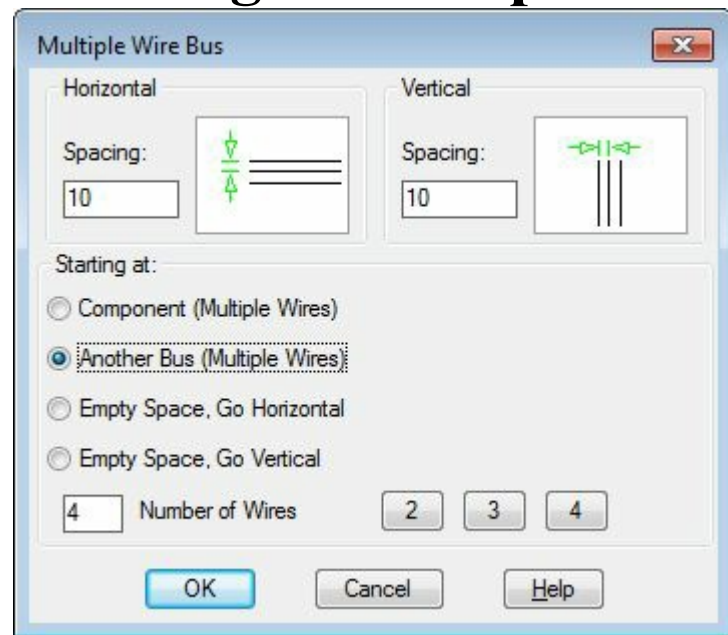

Figure-8. Multiple Wire Bus dialog box
- Click on the **Multiple Bus** tool from the **Insert Wires/Wire Numbers** drop-down. The **Multiple Wire Bus** dialog box will be displayed as shown in Figure-8.